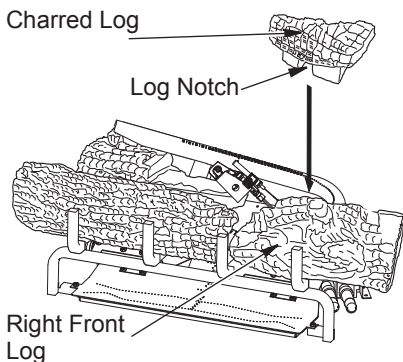

Figure 27 - Installing Charred Log
- Find the charred log (D-020). See Figures 27, 27A, and 27B. The log has a notch in the bottom that fits over the square grate as shown in Figure 27. Place this log on the base as shown in figures.